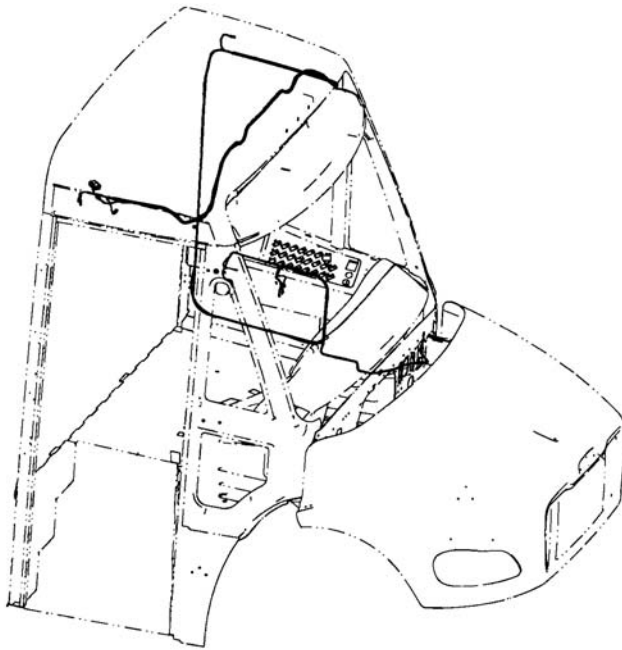

Figure 2
- b. Route Harness Overlay, #TBB 125811, and secure. **Figure 2**